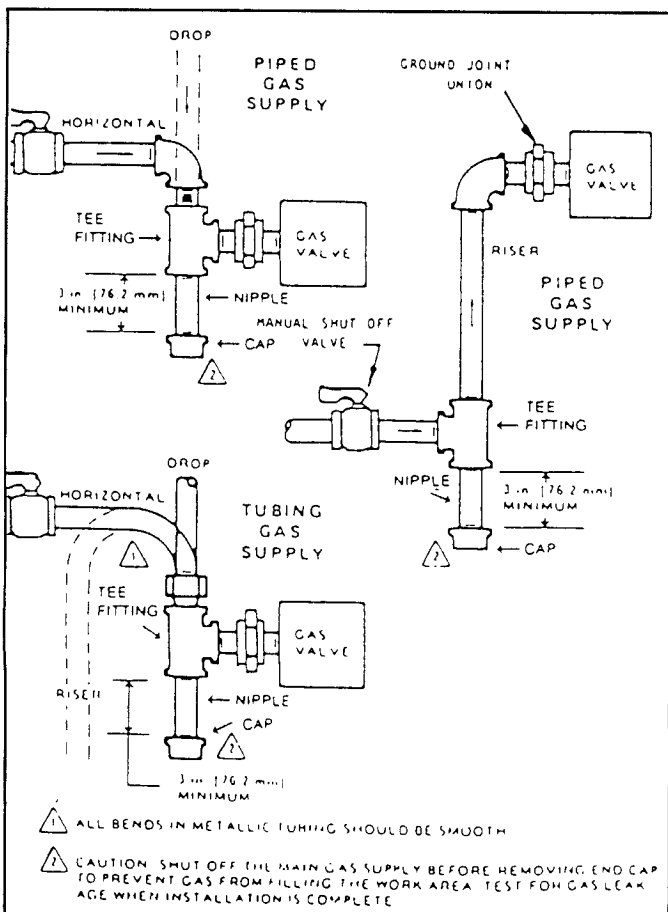

Fig. 2
- A dripleg Fig. 2 should be installed to constitute a trap to catch any condensate that may be in the gas. The dripleg should be readily accessible for cleaning.